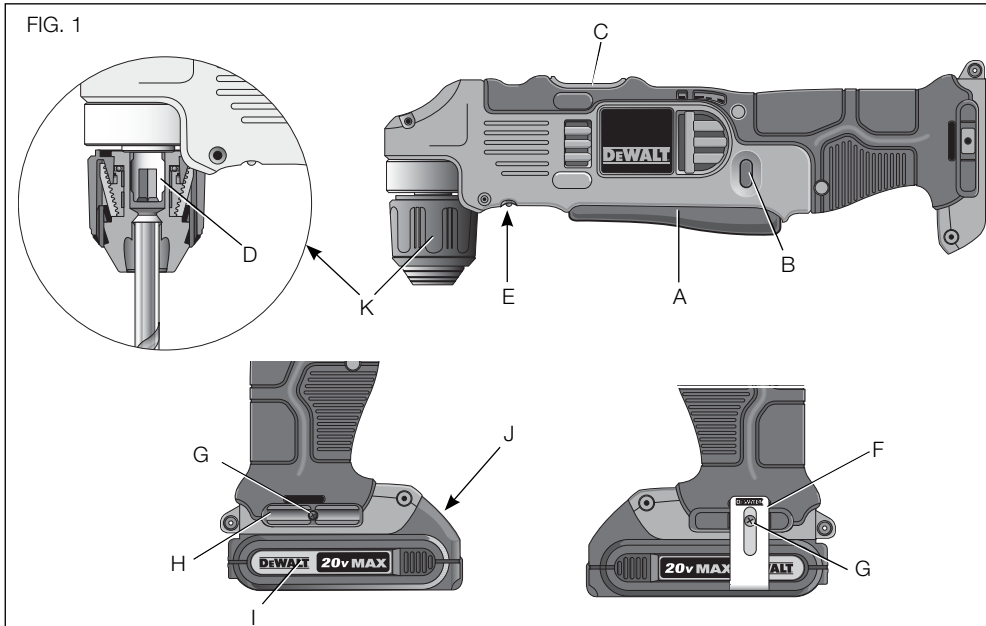

FIG. 2
Charging Procedure (Fig. 2)
2. Insert the battery pack (I) into the charger, as shown in Figure 2, making sure the pack is fully seated in charger. The red (charging) light will blink continuously, indicating that the charging process has started.